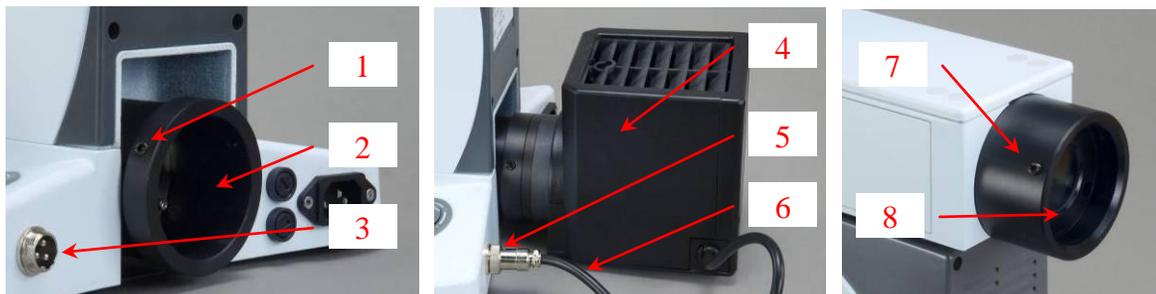

Fig. 7
- 1) Loosen the set screws 1 (see Fig.7) with the Allen key provided in the package.
- 2) Take off the plastic cover to reveal the opening 2 (see Fig.7).
- 3) Insert the light housing into the opening as shown in Fig.7 and then tighten the set screws 1 (see Fig.7) to secure the light housing.
- 4) Insert the power cable 6 (see Fig.7) into the power socket 3 (see Fig.7) and secure it with the back nut 5 (see Fig.7).
- 1) Loosen the set screws 7 (see Fig.7) with the Allen key provided in the package.
- 2) Take off the plastic cover to reveal the opening 8 (see Fig.7).
- 3) Insert the light housing into the opening and then tighten the set screws 7 (see Fig.7) to secure the light housing.